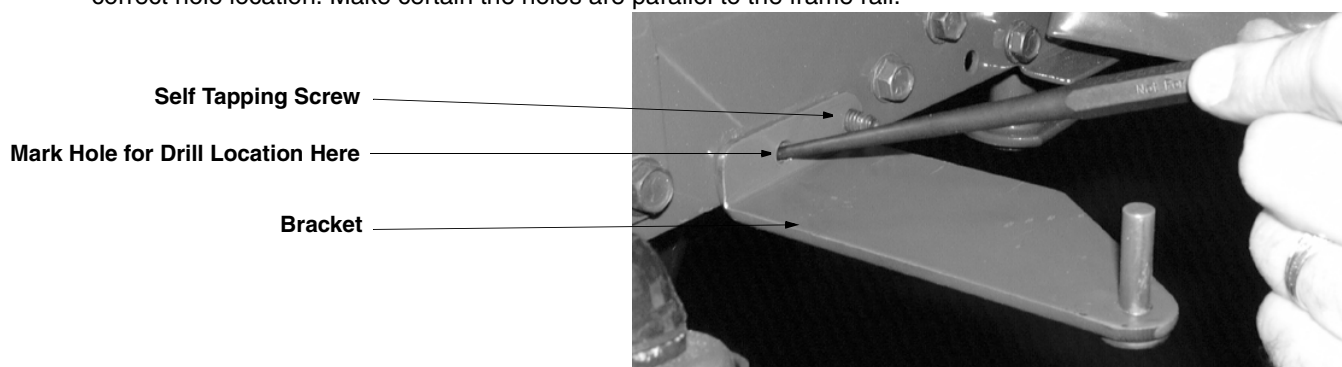

Figure 4
6. Rotate the Bracket upside down until the stop pin points straight up. Place the Bracket up to the outside of the frame and mark the second hole location using a center punch. See Figure 4.